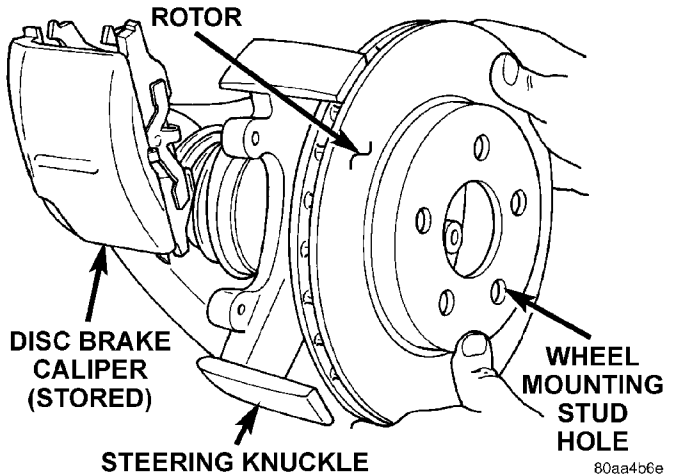

Fig. 19 Remove /Install Rotor
(8) Remove the rotor from the front hub/bearing (Fig. 19).
(6) Install the rotor on the hub/bearing (Fig. 19).